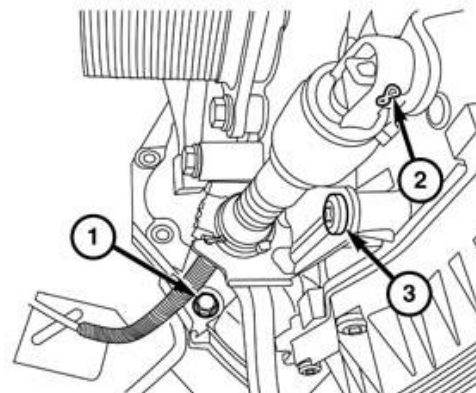

Figure 17 – MPR Cable and Bracket
37. Disconnect the manual park release cable (1) from the lever (2) (Figure 17).
38. Remove the bolts from the manual park release cable bracket (3) and set the bracket/cable (2, 3) aside (Figure 17).
25. Install the bolts to the manual park release cable bracket (3) and tighten to 20 N·m (15 ft. lbs.) (Figure 17).
26. Install the manual park release cable (1) to the lever (2) (Figure 17).